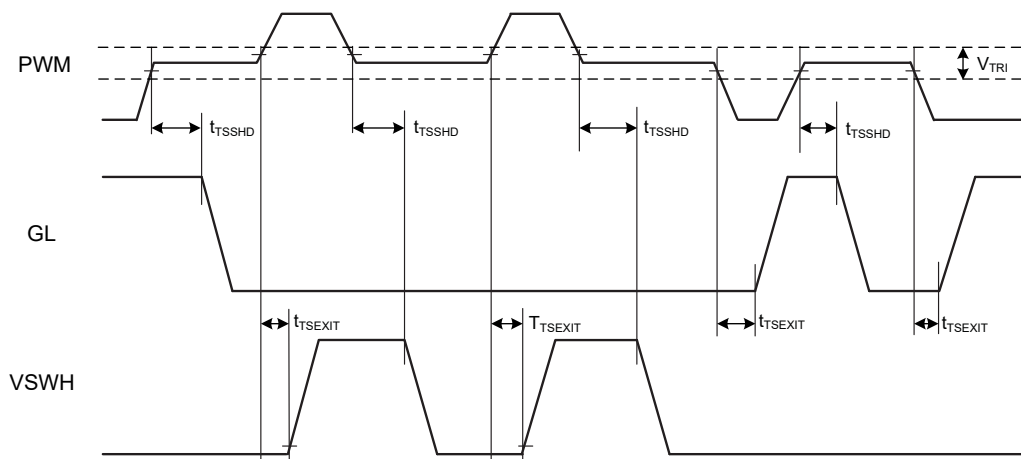

Figure 2. PWM Tri-State Hold Off and Exit Timing Diagram
8. See Figure 2 for propagation delays and Tri-State window.